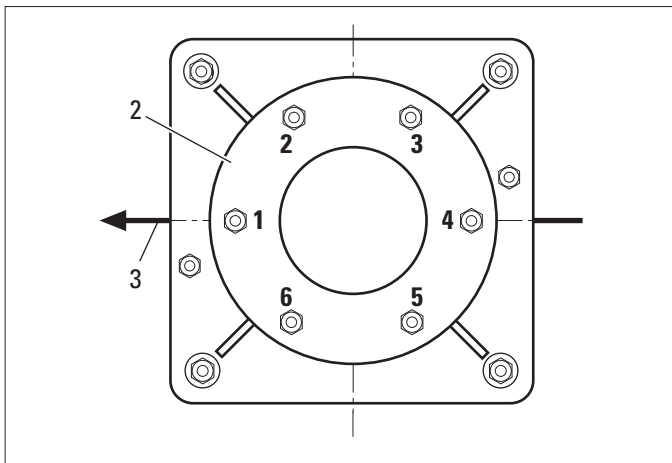

Fig. 2 (View to ceiling)
In order to facilitate mounting of the Telescope Mount, the fastening screws on the bottom of the lower bracket flange (2) should be numbered. The number 1 must point in the direction of the main axis (3), the number 4 lies directly opposite (Fig. 2).